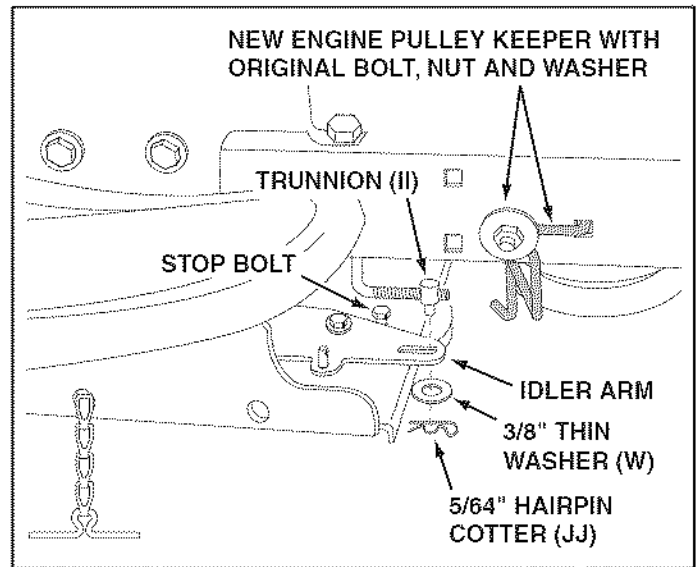

FIGURE 33 **RIGHT SIDE VIEW**
STEP 33: (SEE FIGURE 33)
- Pivot the upper idler arm so that it rests against the stop bolt and is pointing toward the front as shown. Screw the trunnion (II) along the threads of the engagement rod until it is aligned at the front end of the idler arm slot. Attach the trunnion (II) to the slot using the 3/8" thin washer (W) and a 5/64" hairpin cotter (JJ).